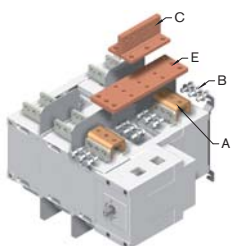

Fig.3
- top or bottom bridging connection (Fig. 3).
Top or bottom bridging connection - Fig. 3